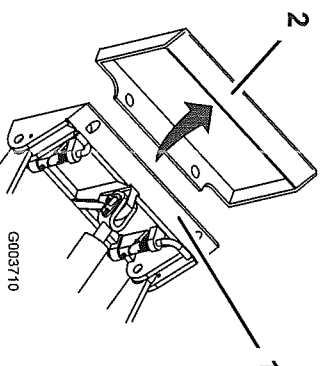

Figure 25
4. Position mount plate into the upper lip of the attachment receiver plate (Figure 25).